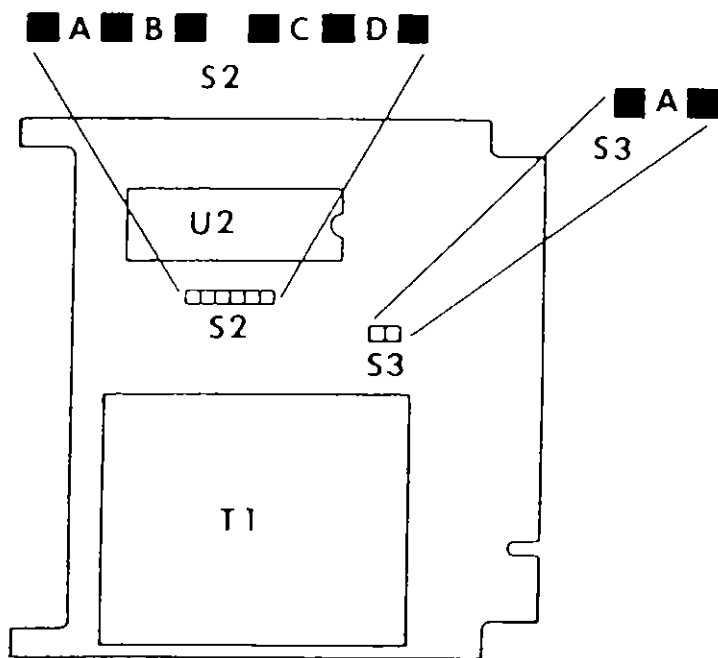

Figure 6-1 Main Board Jumper Locations
The output voltage is selected by a push-on jumper located at S3 on the main board (see Figure 6-1).
2. Install jumper S3-A (see Figure 6-1).